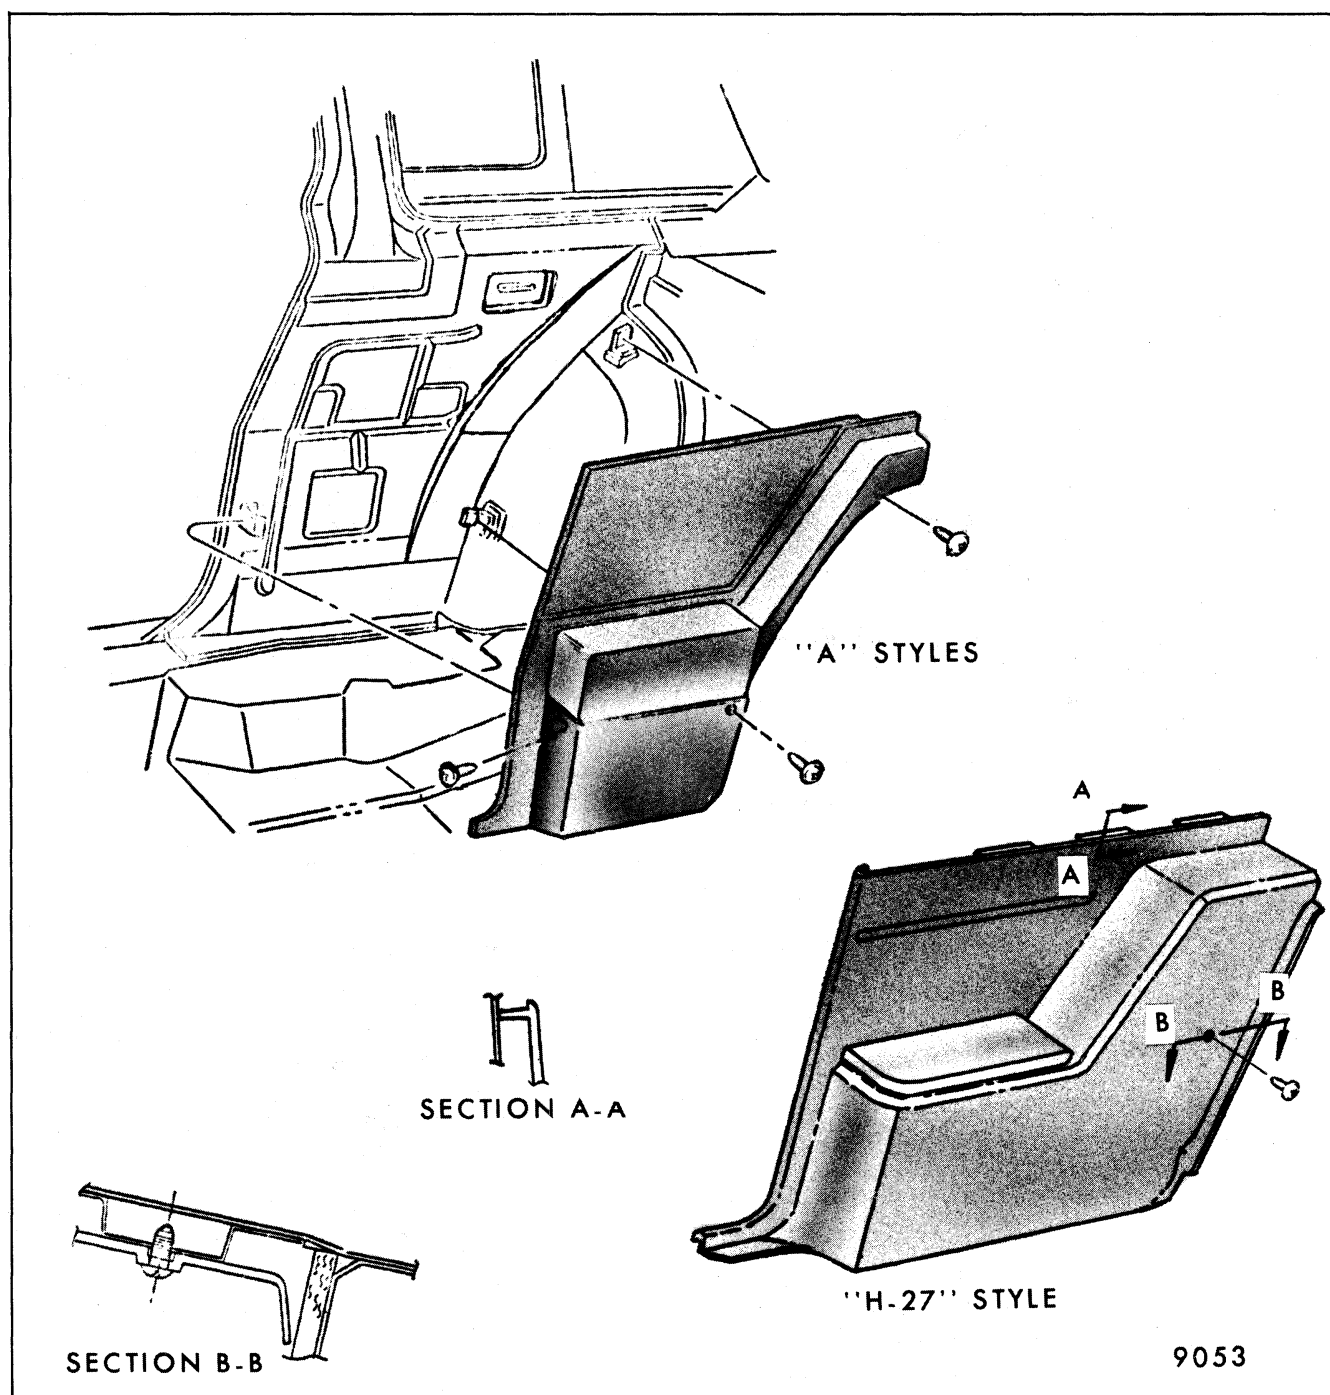

Fig. 6-7-Quarter Trim Assembly Attachment - "A and H-27" Styles
- b. On "A" styles, remove three attaching screws securing panel assembly to brackets (Fig. 6-7).
- d. On "H-27" styles, remove single attaching screw at rear of trim panel, (Fig. 6-7).